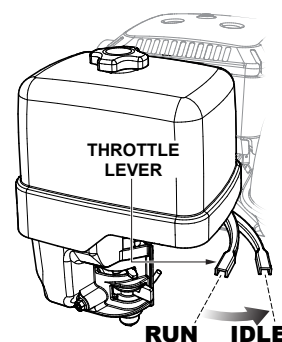

Figure 29. Throttle Lever (IDLE)
1. Place the throttle lever in the **IDLE** (slow) position, and let the engine idle for 3–5 minutes. See Figure 29.